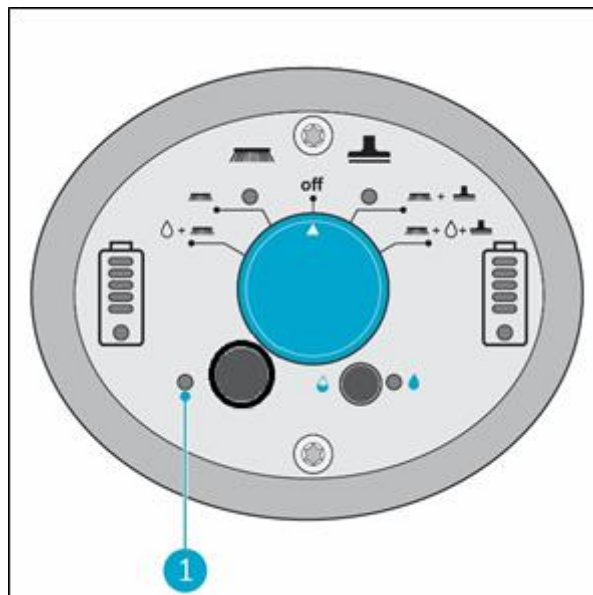

Figure 20
The angle warning indicator is situated on the control panel (Figure 20, pos 1). When the angle of the machine is below 32 degrees, the indicator light will turn on and the water recovery function will be paused. When the handle is raised above 32 degrees the vac motor will restart after 5 seconds.